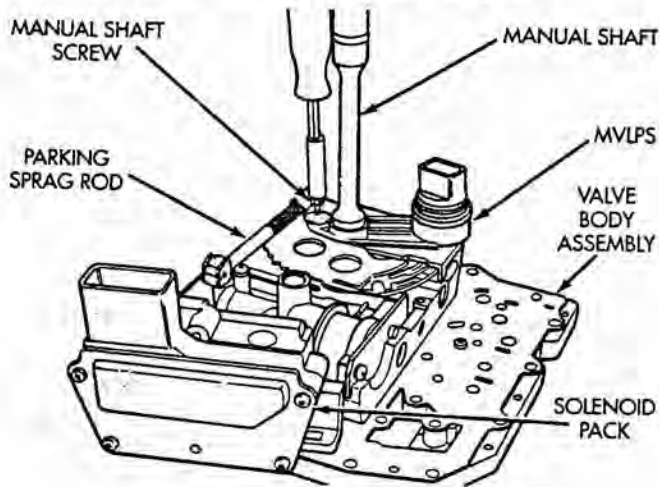

Fig. 9 Manual Shaft Screw
- (1) Remove manual shaft screw (Fig. 9)